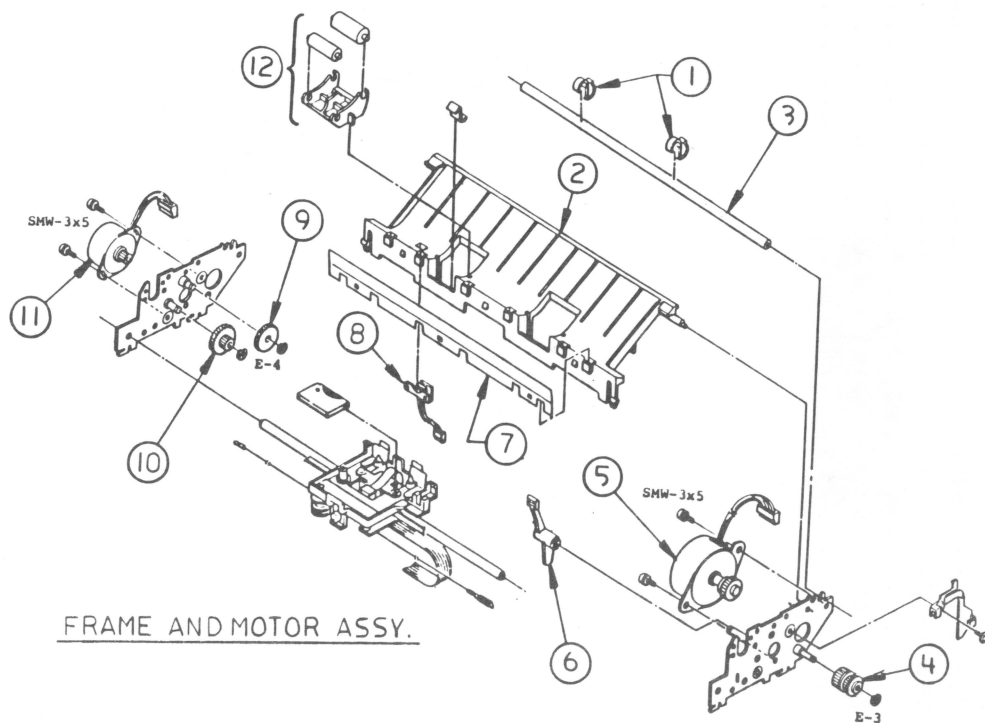

Figure 1
**SCRIBE PRINTER, FRAME & MOTOR ASSEMBLY (Figure 1)**